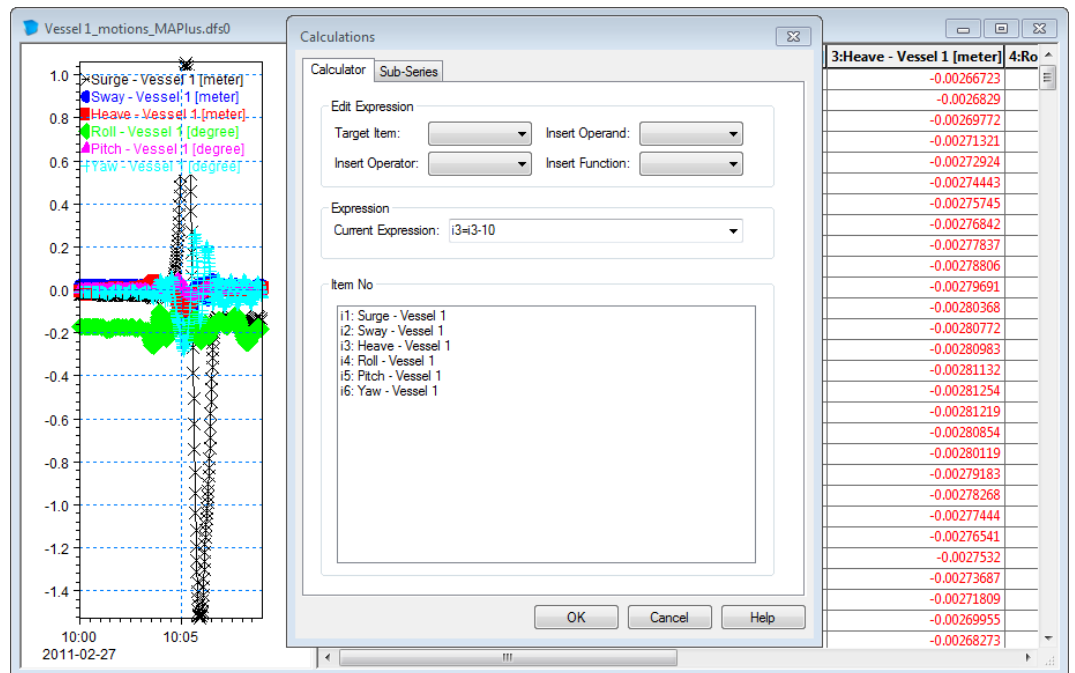

Figure 3.29 Modifying position of vessel to accommodate local coordinate system of 3Dsolid.
12. Subtract 10 m from the third item (Heave) to account for the Draft of the vessel, see Figure 3.29. Press OK and Save